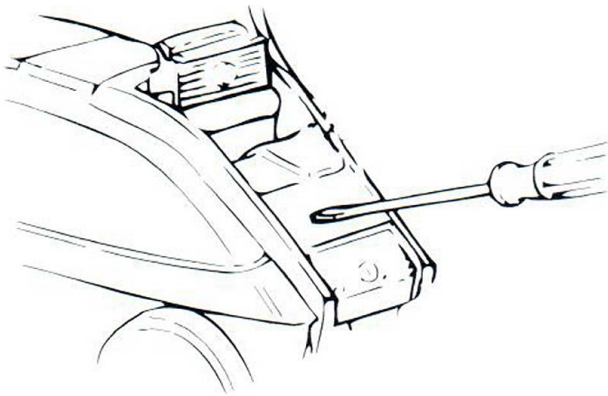

Figure 6. Scuff Plate Removal
- B. *See Figure 6.* Remove scuff plate by: